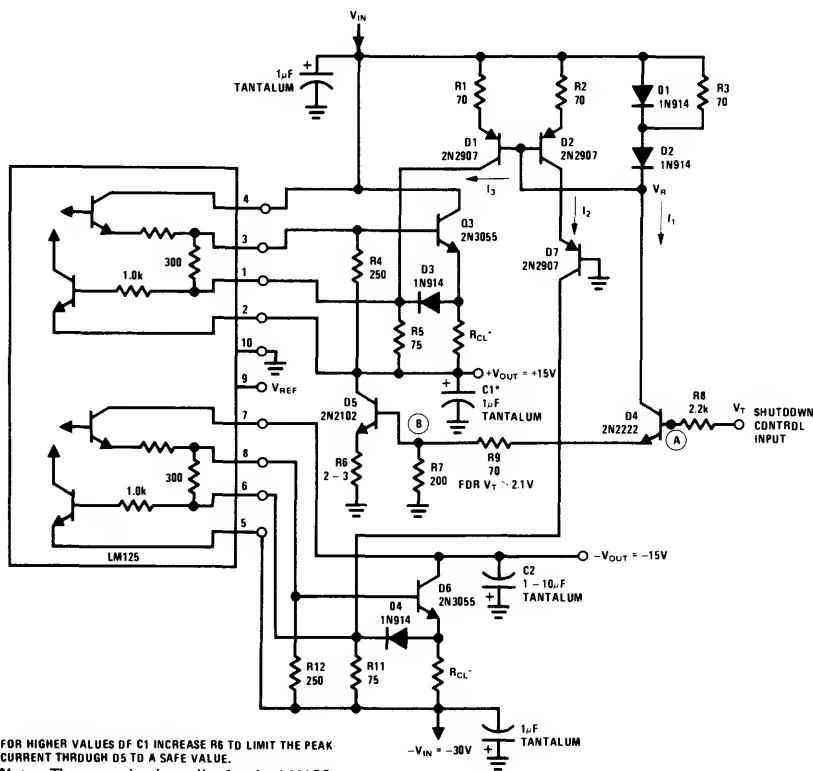
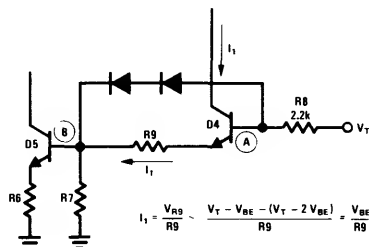

FIGURE 7.33. Electronic Shutdown for the Boosted Regulator
FIGURE 7.34.
The circuit in Figure 7.33 provides complete electronic shutdown of both regulators. The shutdown control signal is TTL compatible but by adjusting R8 and R9 the regulator may be shutdown at any desired level above $2 V_{BE}$, calculated as follows:
Capacitor C_2 discharges through the load. Q_7 shares the total supply voltage with Q_2 , thus limiting power dissipation of Q_2 . Another power dissipation problem may occur when the design is done for $V_T = 2.0V$ for example, and V_T is increased above the preset threshold value. I_1 is increased and Q_4 has to dissipate $(V_{IN} - 3V_{BE} - V_T) I_1$ (W). The simplest solution is to increase R_8 . If this is insufficient, a set of diodes may be added between nodes A and B to clamp I_1 to a reasonable value. This is illustrated in Figure 7.34.
Figure 7.34 the diode D1 in Figure 7.33 may be omitted. The shutdown characteristics of Figure 7.33 are shown in Figure 7.34.